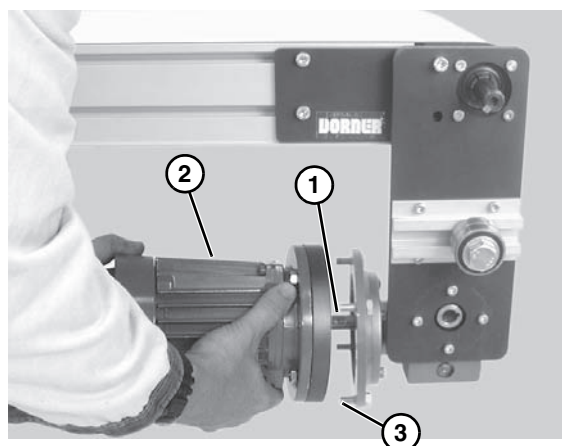

Figure 26
5. With key (Figure 26, item 1) in keyway, slide motor (Figure 26, item 2) and gear reducer together. Install screws (Figure 26, item 3) and tighten.